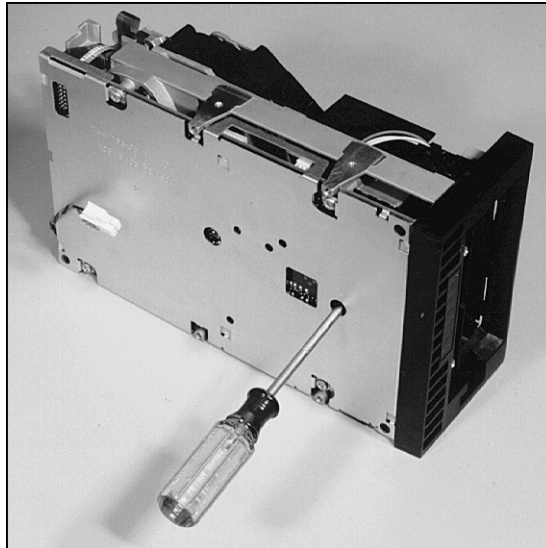

Figure 5-57. Rewinding Tape Through the Access Hole
4. Use a small Phillips screwdriver to rewind the tape in a counterclockwise direction (when facing the bottom of the drive). See Figure 5-57 for the location of the rewind hole.